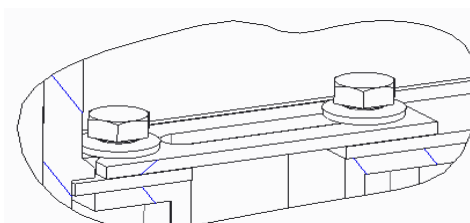

Fig. 4
6. Once the neutral is screwed down and torqued correctly move the central copper link into the position shown in Fig. 4.